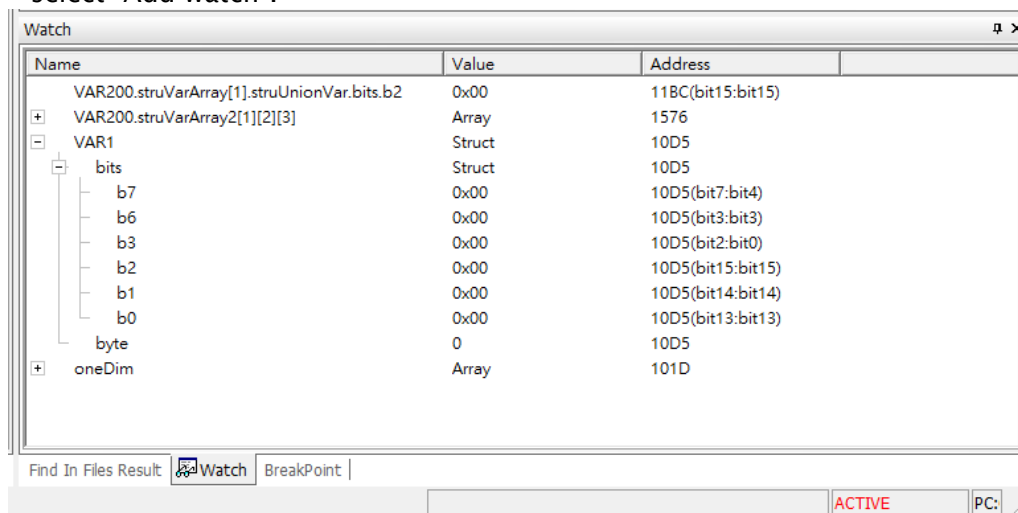

Figure 5.21 Variable watch window
1. Create or open an existing project, edit the source program, enter debug mode, and open the watch variable (as shown in Figure 5.21). then Watch Variables.